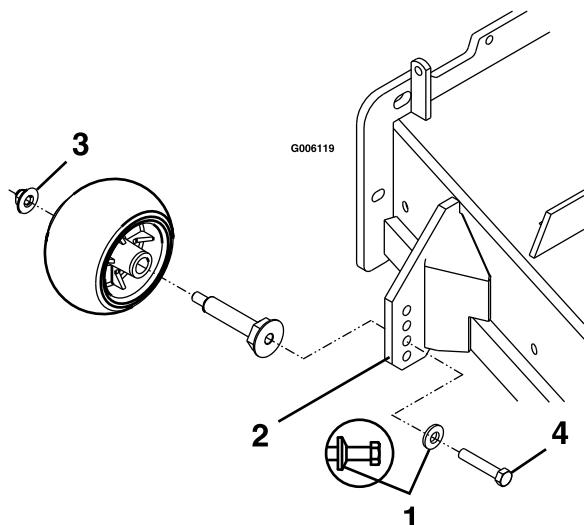

Figure 10
8. Torque the 3/8–24 x 2 Gr 8 hex capscrew to 50–55 ft-lb (68–75 N-m) (Figure 10).
9. If the 3/8 nyloc nut has been removed, reinstall and torque to 30–35 ft-lb (41–47 N-m). (Figure 10).